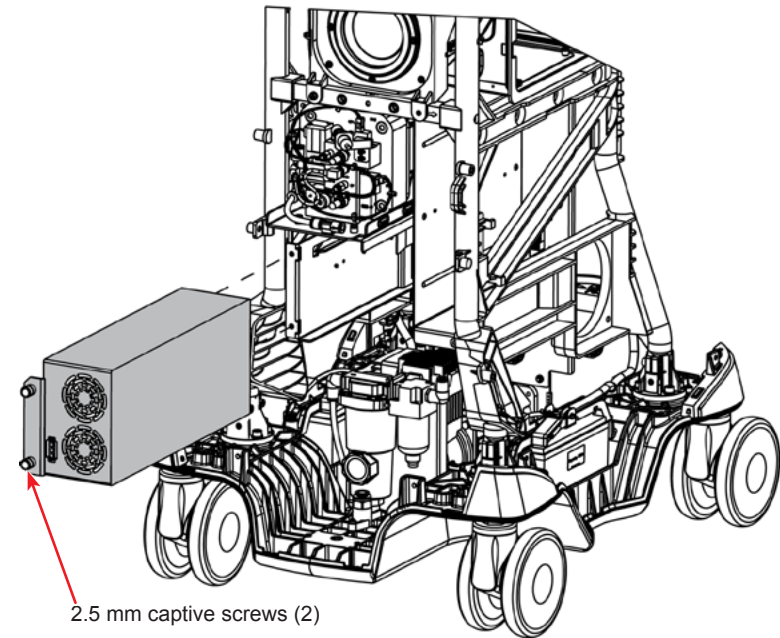

Figure 3-25 Power Supply Removal
- 25.3 Loosen two 2.5 mm captive hex screws securing Power Supply to chassis (see Figure 3-25).